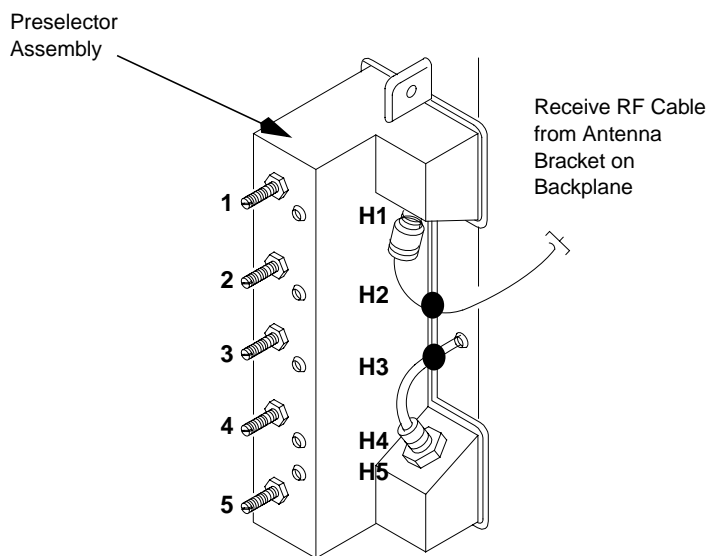

Figure D-5: Preselector Assembly in a VHF, 280 MHz, or UHF Module
3. Connect the receive RF module cable to the mini-UHF connector on the station preselector assembly (see Figure D-5).